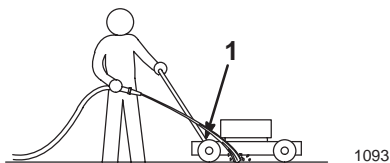

Figure 16
3. Hold the running water at handle level and direct the water to flow on the ground just in front of the **right rear** tire (Fig. 16).